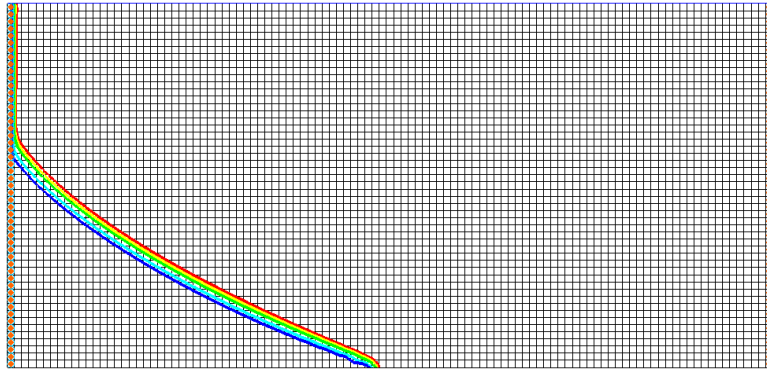

Figure 11 Time step 4 (after 15 minutes)
3. Select time step 4 (value of “15.0”) in the time step window (Figure 11).